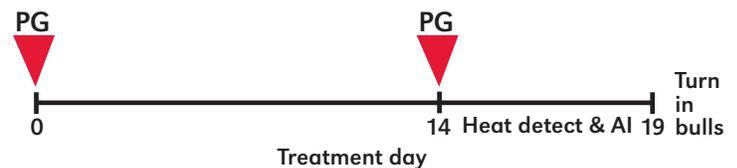

Figure 2. Two-injection prostaglandin with HD.
**Two-Injection Prostaglandin with HD** (Figure 2). An injection of prostaglandin is given to all heifers on the first day (day 0), and on day 14, they receive a second prostaglandin injection. Heifers are observed for estrus for the following 5 days and inseminated 12 hours after they display standing estrus. The two-injection protocol should, theoretically, synchronize estrus in cyclic females within 2 to 5 days after the second injection. Timed artificial insemination when using this protocol is not recommended. Only heifers that are cycling will respond to this protocol.